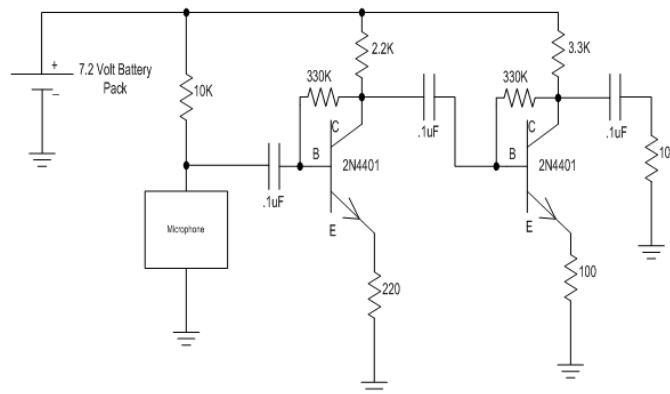

Figure 4.14: Schematic for a two-stage audio amplifier.
Shown below in Figure 4.14, is the schematic for a small signal audio amplifier. The amplifier consists of two single transistor amplifiers in series. By doing so, the two stages of amplification can together boost the microphone output level over 150 times. The microphone output level is only about 20mV peak-to-peak. The composite gain of the amplifier is simply: *gain of the first stage*  $\times$  *gain of the second*
1. First analyze the amplifier circuit in Figure 4.14 and determine its collector voltage, and its collector current. (Hint: Write the KVL loop from the supply through  $R_c$ ,  $R_b$ ,  $V_{be}$ , and finally  $R_e$ ). Do this for both stages of the amplifier. Use a beta of 100. Outline your work below.